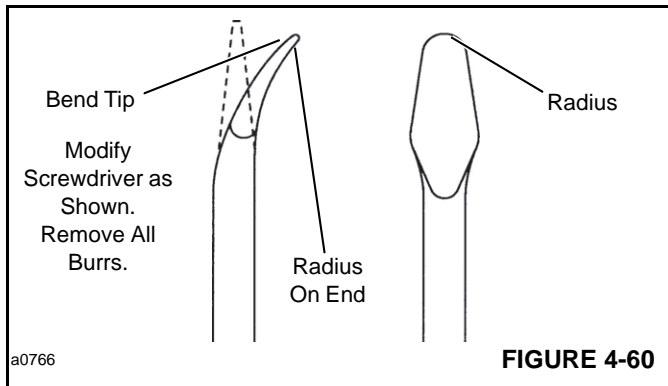

FIGURE 4-60
13. Exclusion seal (2), backup ring (4), pressure seal (5) and seal (6) will come off with flange (3). Use the seal removal tool shown in Figure 4-60 and 4-61 to remove the exclusion and pressure seals.